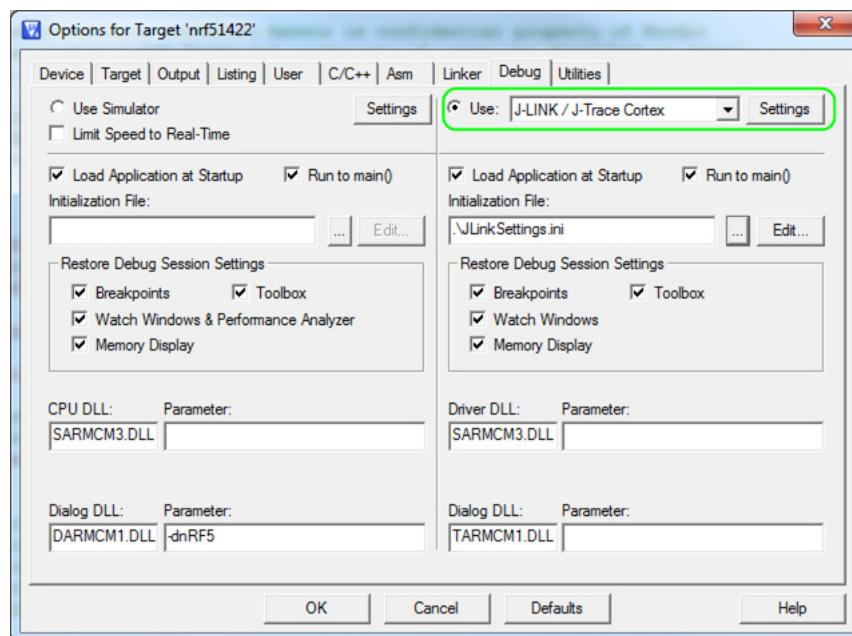

Figure 36 Selecting JLink debugger in Keil
3. Under the **Debug** tab in the Use list, select **J-LINK / J-Trace Cortex** option as shown in *Figure 36*.
4. Click **Settings** as shown in *Figure 36*. Both the SEGGER Control Panel and the Keil Target Driver Setup will open.